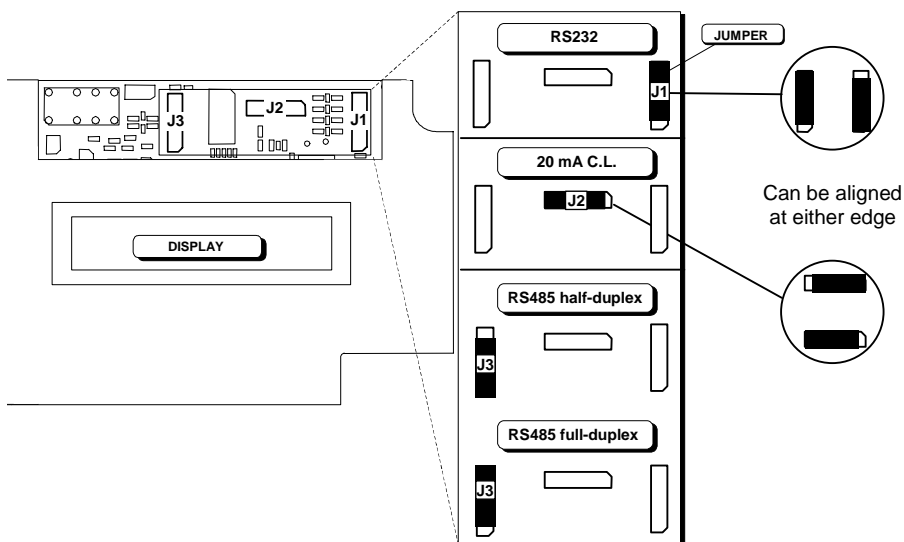

Figure 7 - DS8100 main interface selection
2. Position the jumper onto the correct connector as indicated in Figure 7.